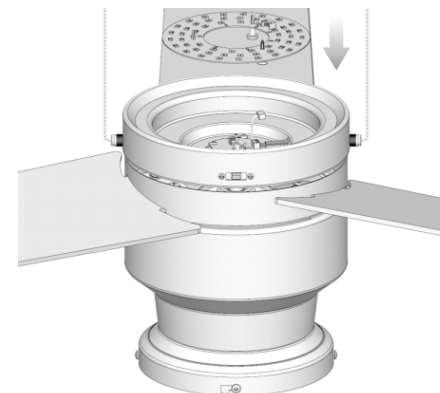

Fig. 3.2
3.4 Allow the wire plug **(c)** to pass through the light kit. Reinstall the light kit. The light kit will be magnetically attracted to the pan with the help of magnets, as shown in Fig. 3.2.